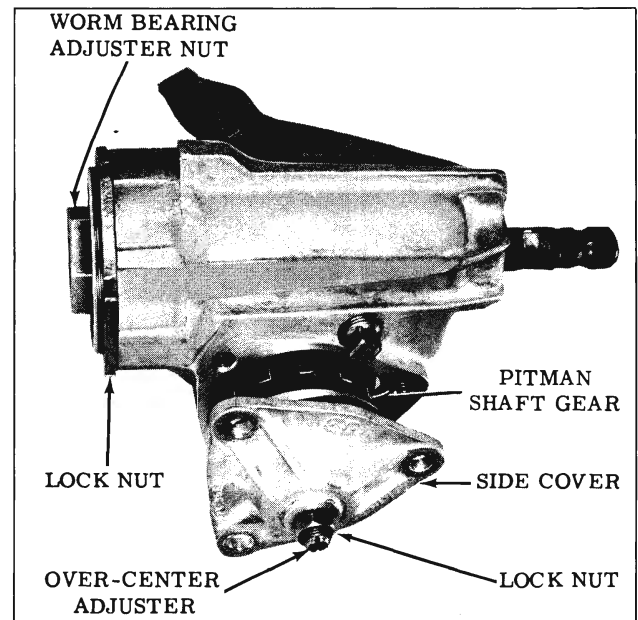

Fig. 4-208 Removing Pitman Shaft
4. Pull the side cover with the pitman shaft from the housing (Fig. 4-208).